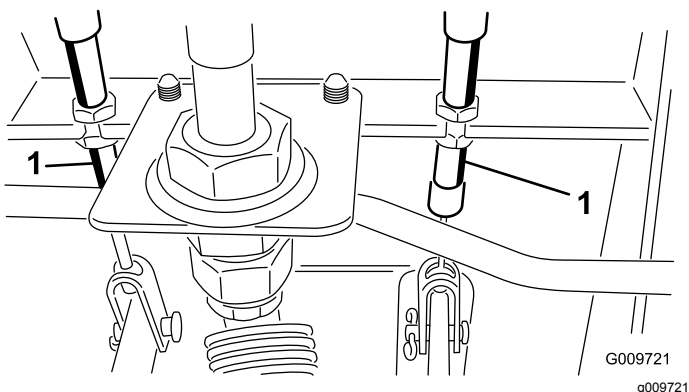

Figure 92
- A. Loosen the front nut on the threaded end of the brake cable (Figure 92).